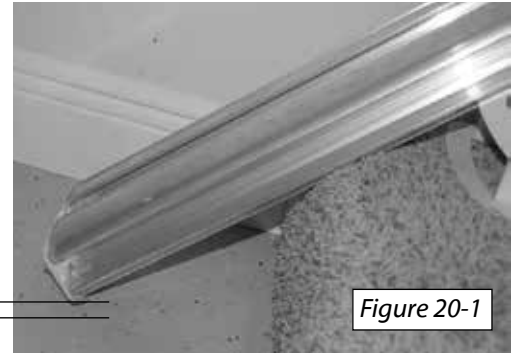
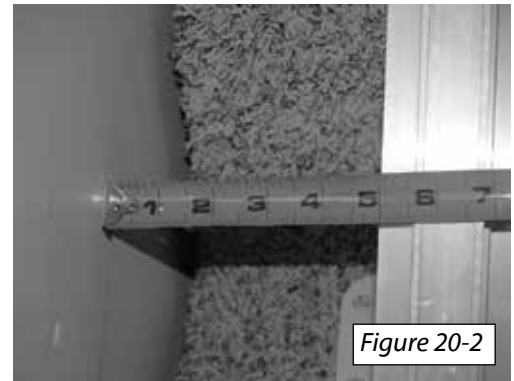

Figure 20-1
Figure 20-2
1. Set the lower section of rail onto the steps. The bottom of the rail should be resting on the stair nosings and the bottom end should be 1/2" off of the floor at the bottom landing [Figure 20-1]. Position the rail 5 in. [Figure 20-2] from the wall or any protruding object.